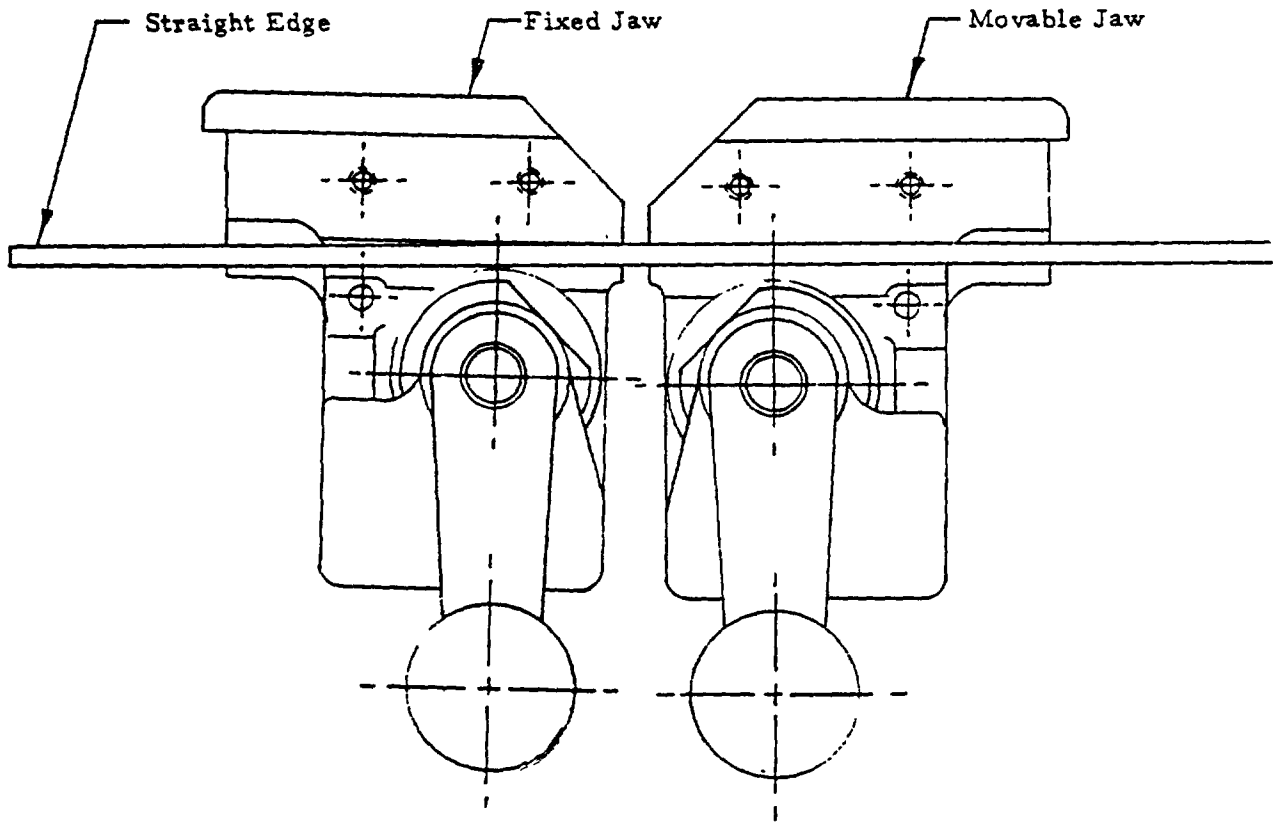

FIG. 2
- Fig 2 is an example of inclination misalignment as checked with a straight edge. The fixed jaw must be moved to correct this problem. Loosen the mounting screws and move the jaw as required. The mounting screws are located inside the welder case - behind the fixed jaw.